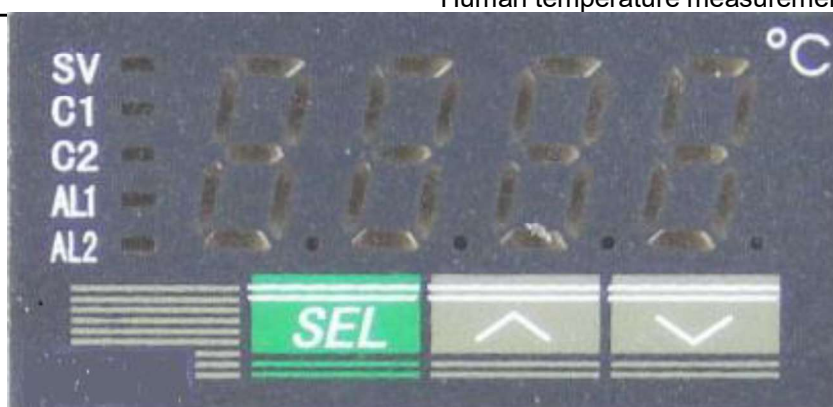

Figure 2: schematic diagram of temperature control instrument panel
- c. Blackbody operating temperature can be adjusted according to the need of the field. Press the "SEL" button (see figure 2), the "SV" indicator, press "^" or "v" button to increase or decrease the working temperature, and then press "SEL" to confirm. (See the table for the parameters of the control panel: temperature control instrument panel instructions.)